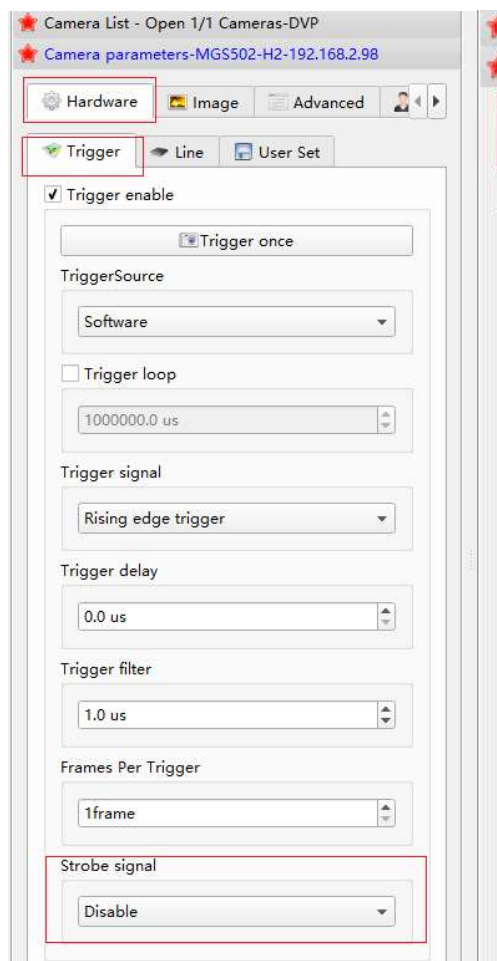

Figure 2.3.8
Step 4: Turn the camera light source on or off, as shown in Figure 2.3.8;